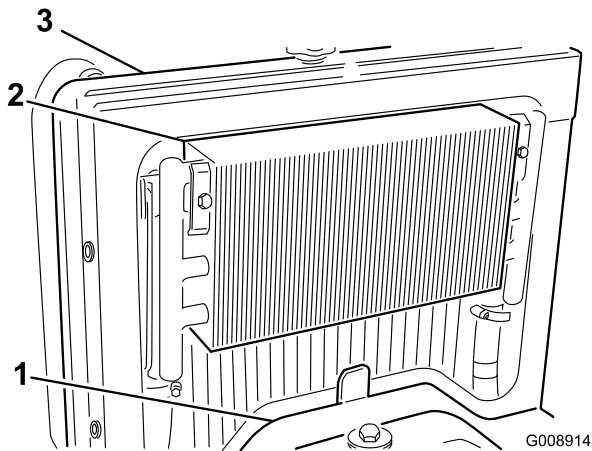

Figure 69
3. Remove the access panel (Figure 69).